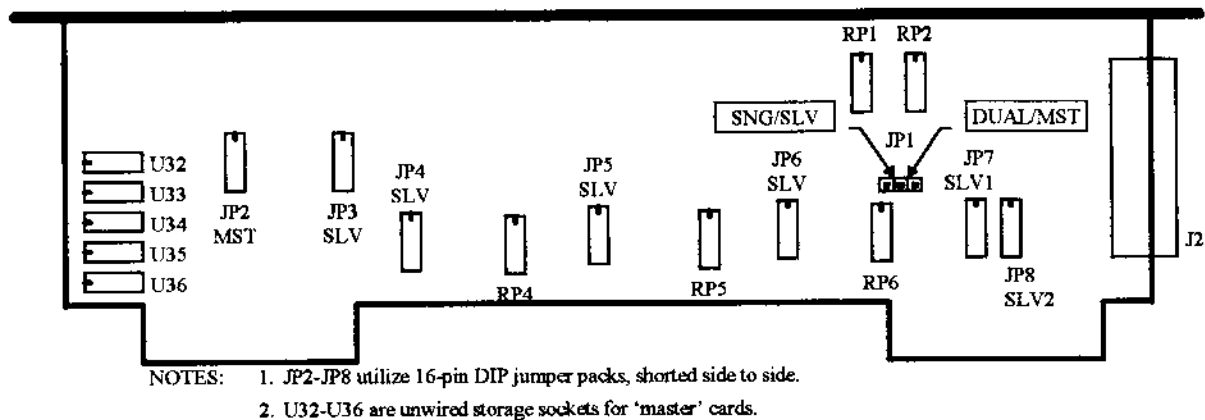

Figure 2-3: Model 2540 Rev C Expand Card Jumpers
The Expand cards can be configured as a Master (2540) or Slave (2540EX) unit. The direction of each card is determined by the installation of one 'berg' jumper (JP1), and seven DIP jumpers (JP2-JP8) which connect the receive outputs of the transceivers, where appropriate. These DIP Jumpers are located on 'Rev C' cards as shown in the illustration of Figure 2-3: Model 2540 Rev C Expand Card Jumpers. The revision of the card is the letter following the "702-9458" part number on the Expand PCB. For Model 2540 units which utilize 'Rev B' cards, please refer to the previous revision of this manual (Part No. 025-9260B) or contact Zetron at (206) 820-6363 for assistance. We have improved the ribbon cable interface and modified the jumper selection for this 'Rev C' version card. Jumper installation is shown in Table 2-8: Expand Card Jumper Configurations, as related to FASTNet chassis installation.